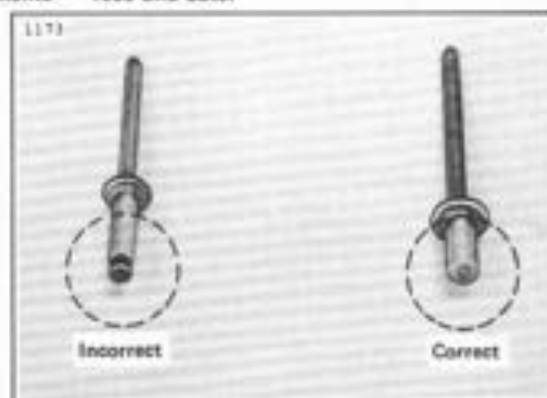

Figure 5-23E. Special Timing Cover Rivet
7. Install gasket (5) and inner cover (4) with screws (3).
8. Rivet outer cover (2) to inner cover (4) with rivets (1).
**CAUTION** — Use only rivets Part No. 8899 to secure outer cover. (See Figure 5-23E.) Timing cover rivets are specially designed so there is no rivet end to fall off into timing compartment as with regular rivets. Use of regular rivets could cause damage to ignition components.